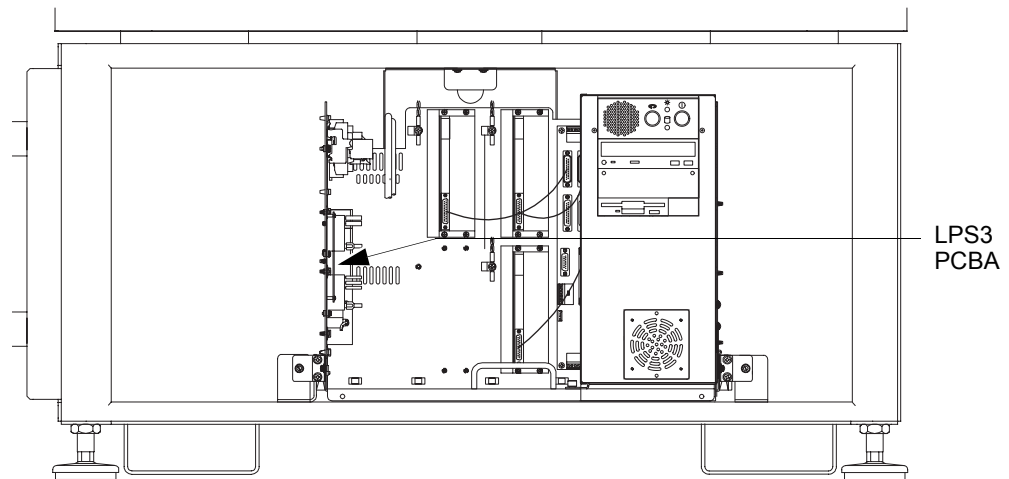

Figure 9-30 Location of the LED Power Supply (LPS3) PCBA
4. The LPS3 PCBA is centered on the left side wall of the drawer next to relays C1 and C2; refer to Figure 9-30.